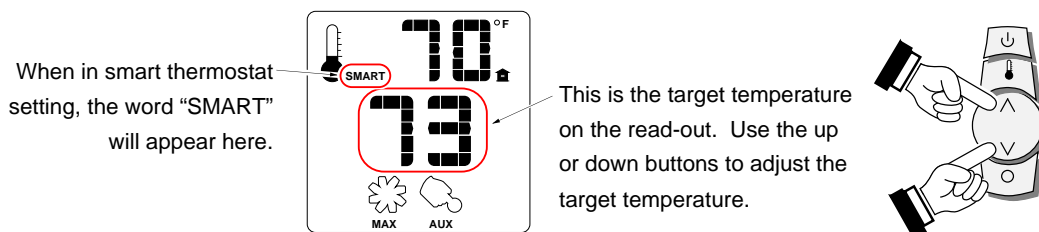

Figure 7
- **SMART THERMOSTAT** – While in smart thermostat, the transmitter will control the burner to achieve the target temperature (see Figure 7 below). Flame height will be adjusted up or down to allow operation without turning the burner on and off (also called “smart modulation”). To adjust the target temperature, press the up and down buttons until a suitable temperature is achieved.